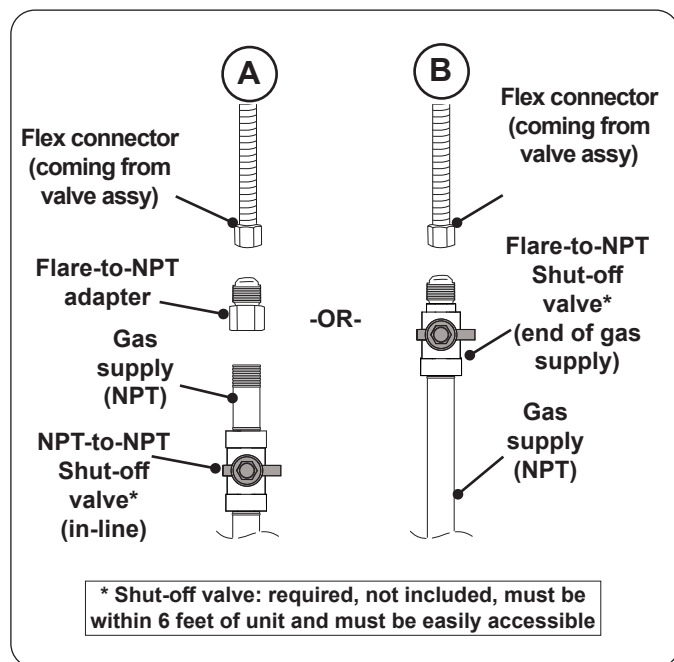

Fig. 25-1 Connecting to a gas line
- Install the supplied flare-to-NPT adapter to the gas supply (NPT) using a pipe joint compound resistant to all gasses (see Fig. 25-1, A). Tighten securely.
- Connect the flex connector to the adapter (see Fig. 25-1, A). Tighten securely.
- Connect the flex connector to the shut-off valve (flare)(see Fig. 25-1, B). Tighten securely.